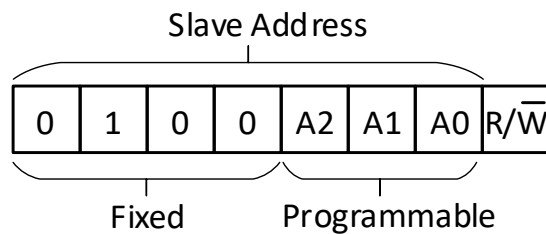

Figure 7-7. NCA9534B device address
Figure 7-7 shows the address byte of the NCA9534B. The last bit of the target address defines the operation (read or write) to be performed. A HIGH (1) selects a read operation, while a LOW (0) selects a write operation.
Data is transmitted to the NCA9534B by sending the device address and setting the least significant bit to a logic 0 (see Figure 7-7). The command byte is sent after the address and determines which register will receive the data following the command byte.
In order to read data from the NCA9534B, the bus master must first send the NCA9534B address with the least significant bit set to a logic 0 (see Figure 7-7). The command byte is sent after the address and determines which register will be accessed. After a restart, the device address is sent again, but this time the least significant bit is set to a logic 1. Data from the register defined by the command byte will then be sent by the NCA9534B (see Figure 7-11, Figure 7-12). Data is clocked into the register on the rising edge of the acknowledge clock pulse. There is no limitation on the number of data bytes received in one read transmission, but the final byte received, the bus master must not acknowledge the data.